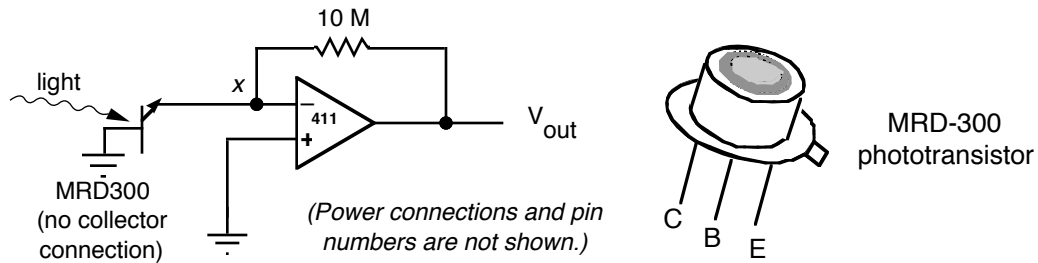

Fig. 9.1
a) Connect the MRD-300 as a photodiode and use a $10\text{ M}\Omega$ feedback resistor as in Fig 9.1. If the output voltage is too large, reduce the resistor to $1\text{ M}\Omega$. If you see fuzz on the output try a $0.001\text{ }\mu\text{F}$ capacitor across the feedback resistor. (How does this capacitor affect the feedback at high frequencies?) Connecting the output of the op amp to the scope, you should see the modulations from the lab's fluorescent lights. What is the photocurrent produced by the MRD-300? Cover the phototransistor with your hand to make sure it's the lights you are seeing. Look